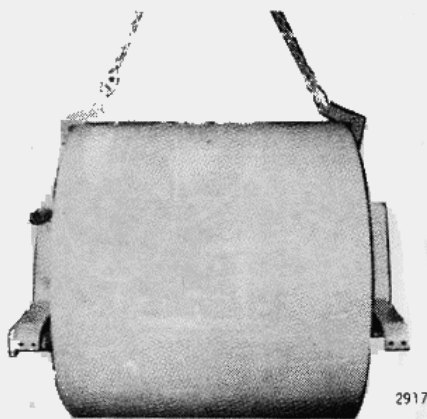

FIGURE 7-90.
a. Position the drum directly behind the unit and lift or roll the drum into the frame until the drum is aligned with the large holes in the frame (see figure 7-90).